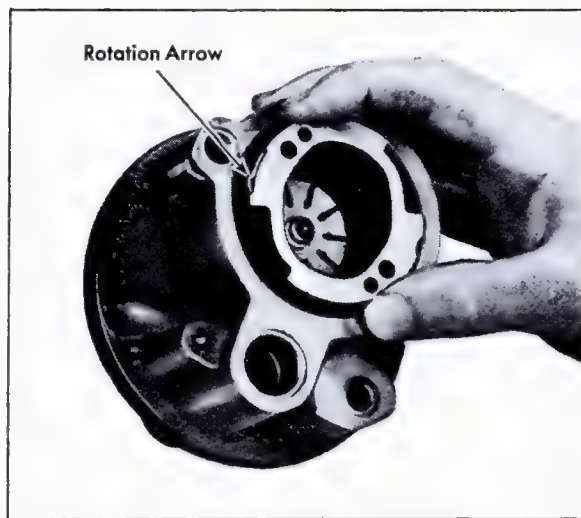

Fig. 9-17 Installing Cam Ring
10. Install cam ring on dowel pins with rotation arrow toward rear of pump housing and pointing in direction of pump rotation, Fig. 9-17. Direction of rotation is counterclockwise when viewed from rear of pump.